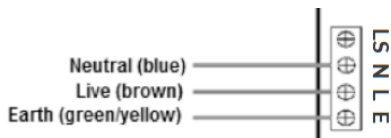

Fig. 2 Non-maintained
- Connect the luminaire to the mains supply ensuring the correct polarity is observed: L - Live (brown), E - Earth (green/yellow), N - Neutral (blue). The fitting can be wired for non-maintained operation (Fig. 2), maintained operation (Fig. 3) or switched-maintained operation (Fig. 4) as required. Remove the link between LS and L if not required